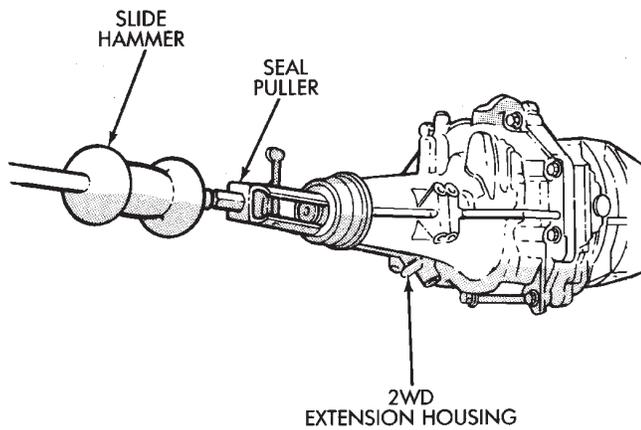

Fig. 12 Remove Extension Housing Seal J9121-385
- (1) Raise and support vehicle.
- (2) Remove propeller shaft. Refer to Group 3, Differential and Driveline, for proper procedures.
- (3) Using a suitable seal puller or screw with a slide hammer, remove the extension housing seal (Fig. 12).